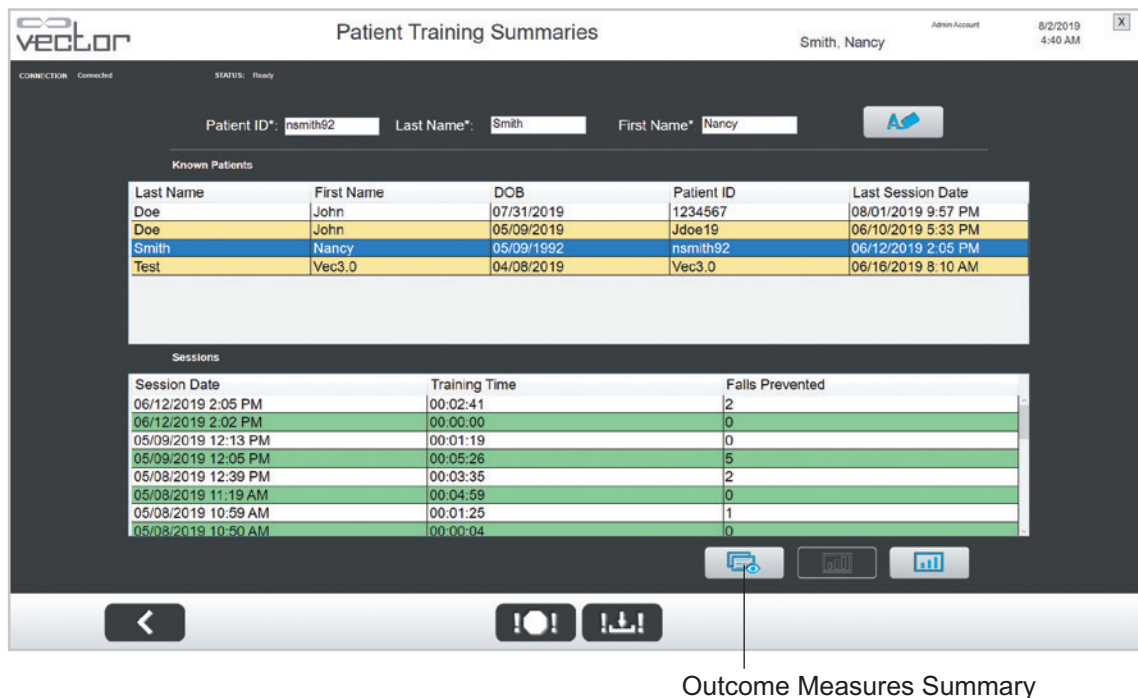
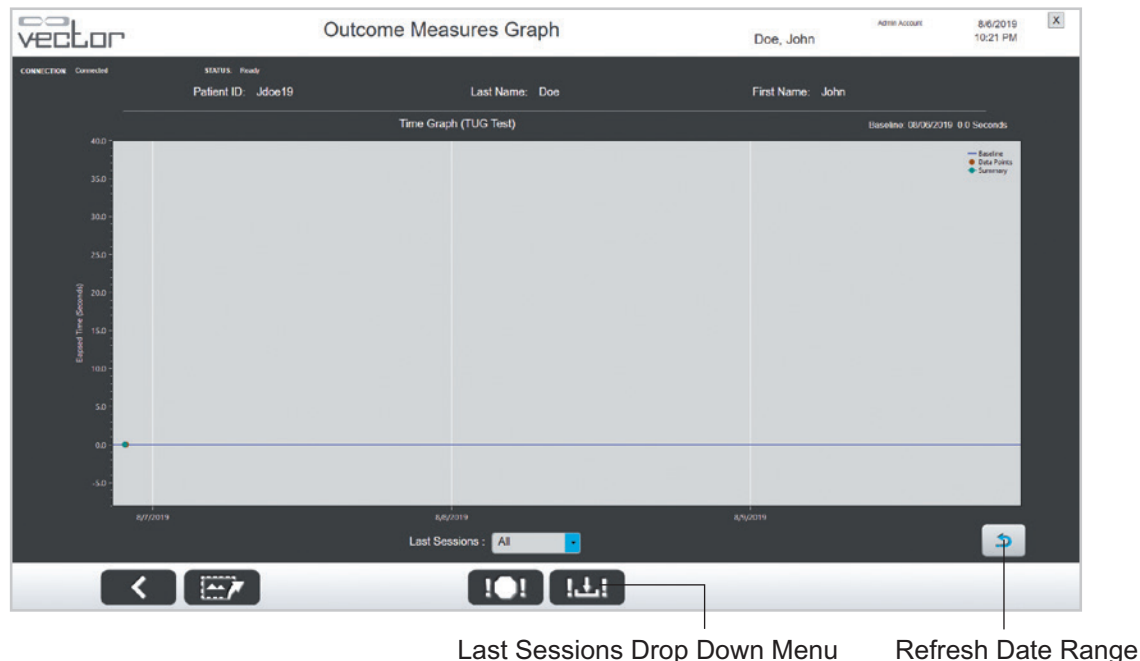

Figure 8-9: Outcome Measures Summary
Figure 8-11: Outcome Measures Summary Graph
17. To view all the of selected Walk test results (5 meters/10 meters/2 minutes/6 minutes) for a given patient, press the View Summary Graph button. See Figure 8-11.
- If your system features the Outcome Measures software module, you will see an Outcome Measures Summary button on the Patient Training Summaries screen. See Figure 8-9.
14. From the Outcome Measures Summary screen, press the Outcome Measures Graph button. See Figure 8-9. The Outcome Measures Graph screen will open for the test type (tab) that is currently selected. The graph will display key results of multiple test runs over a selected number of tests. The graph will also display the Baseline score and daily average (summary). See Figure 8-11.